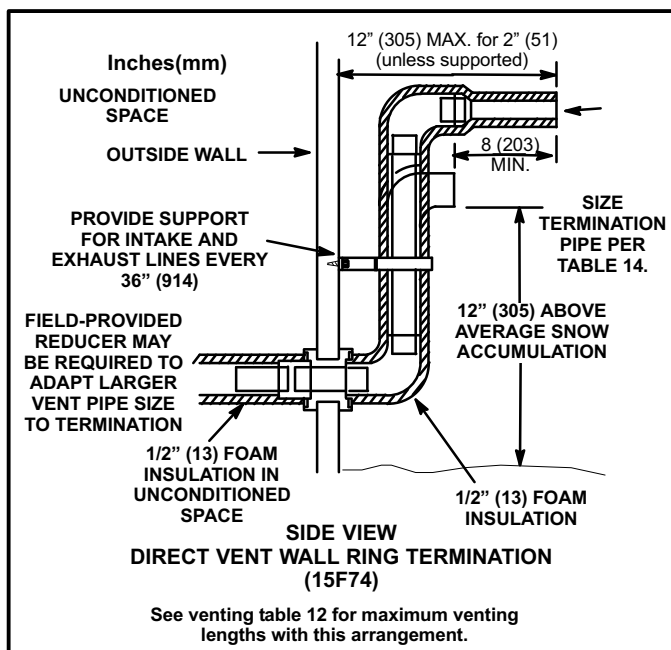

FIGURE 29
7. If intake and exhaust piping must be run up a side wall to position above snow accumulation or other obstructions, piping must be supported every 3 ft. (.9m) as shown in figure 18. Refer to figure 29 for proper piping method. In addition, WTK wall termination kit must be extended for use in this application. See figure 32. When exhaust and intake piping must be run up an outside wall, the exhaust piping must be terminated with pipe sized per table 14. The intake piping may be equipped with a 90° elbow turndown. Using turndown will add 5 feet (1.5m) to the equivalent length of the pipe.